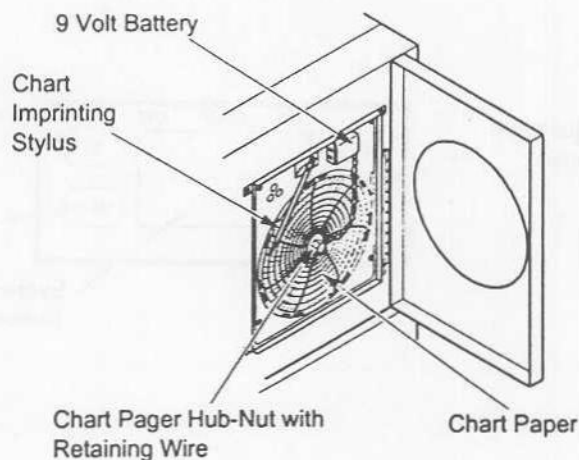

Figure 11. Recorder
Refer to Figure 11 for an illustration of the recorder indicators and buttons.
1. Open the Recorder door (refer to Figure 11 on page 20).